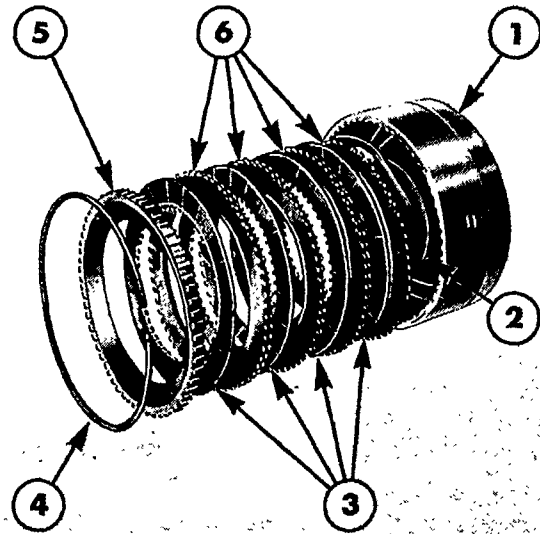

Figure 7
3. Remove the retaining snap ring, the pressure plate, four internally splined plates, the four externally splined plates and the feathering spring from the housing, see Figure 7.